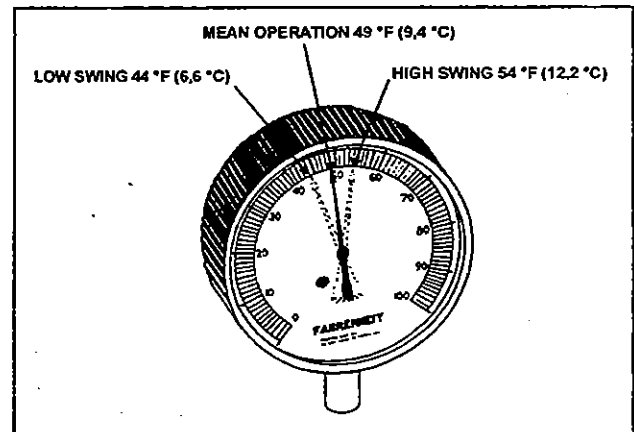

Figure 28: High & Low Swing Temperature at Remote bulb 22047
5. Check approximately 5 readings of pressure at 2-minute intervals and convert to temperature using the temperature pressure (page 43). Likewise check the temperature reading at the remote bulb at the same 2-minute intervals and record the low and high swing readings of the needle (refer to Fig. 28).
### EXAMPLE OF READINGS TAKEN (Fig. 28):